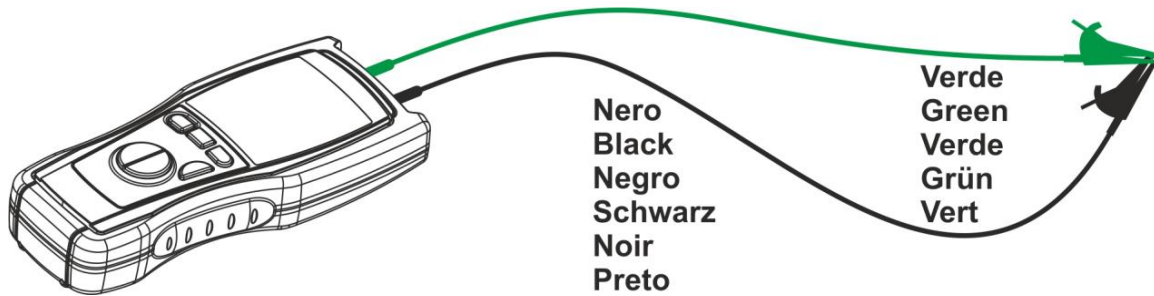

Fig. 10: Connection of the instrument's terminals during calibration procedure
3. Short-circuit the cable ends with each other as shown in Fig. 10 making sure that the metallic parts of test probes and crocodiles are in good touch